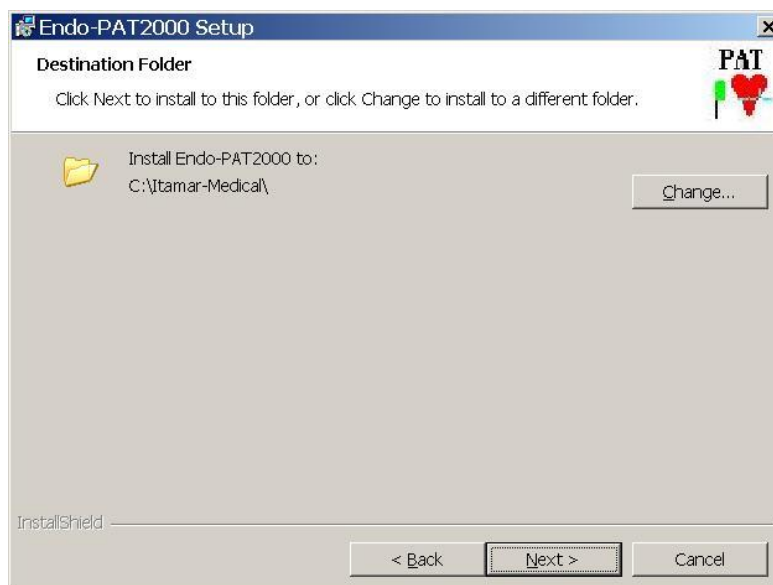

Figure 7 - Installation folder selection
6. Click “Next” to set the default target folder for software installation, or click “Change” to select a different folder for the installation (Figure 7).